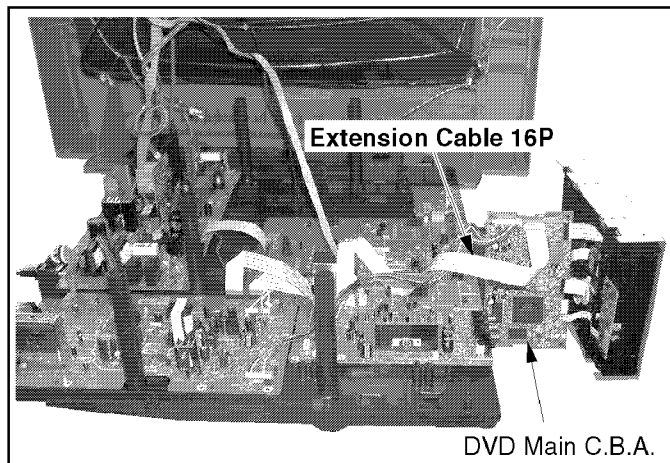

Fig. 6-4
1. Perform step 1 in Service Position (3) as shown in Fig. 6-4.